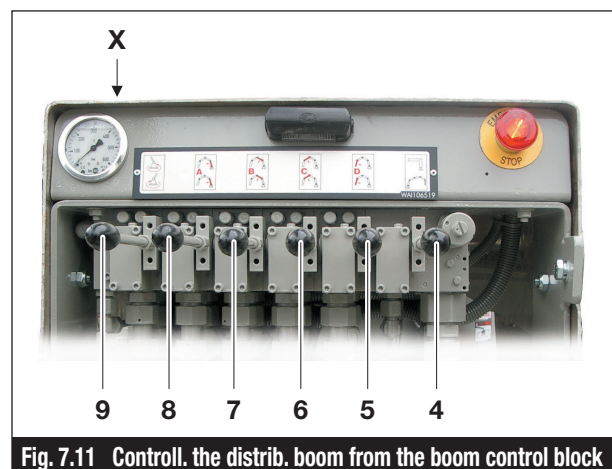

Fig. 7.11 Control. the distrib. boom from the boom control block
If the control system fails, the outriggers can be operated manually from the master control block. To do this a send person must stand at the “Outrigger/Boom” control panel and hold the control lever (Item 4, Fig. 7.11) in the UP position.
- Press control lever boom A (Item 8, Fig. 7.11) and deploy the boom package.
- Press the boom rotation control lever (Item 9, Fig. 7.11) to rotate the boom package into the working position.
- Press control lever B (Item 7, Fig. 7.11) and deploy boom element B at 120° to boom element A.
- Press control lever C (Item 6, Fig. 7.11) and deploy boom element C at 90° to boom element B.
- Press control lever D (Item 5, Fig. 7.11) and deploy boom element D at 90° to boom element B.
- Use the control levers (Items 5 to 9, Fig. 7.11) on the boom control block to move the distributor boom into the desired working position.